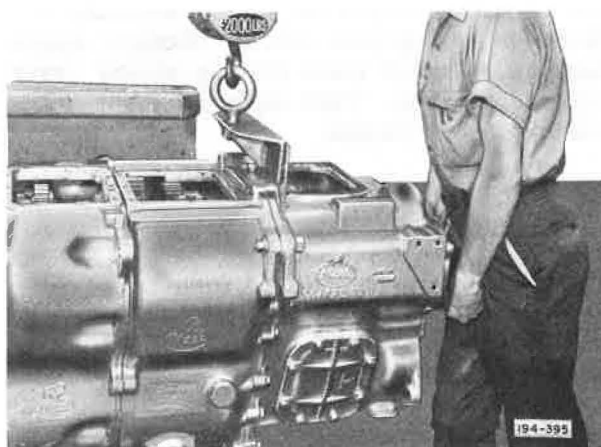

Figure 5-210. Engaging Main Case to Compound Case
1. With bell housing and compound case assembled and mounted in overhaul stand, install new gasket to compound case. With the aid of a hoist, pick up transmission main case. Align main case with compound case, and carefully engage units together. See Figure 5-210.